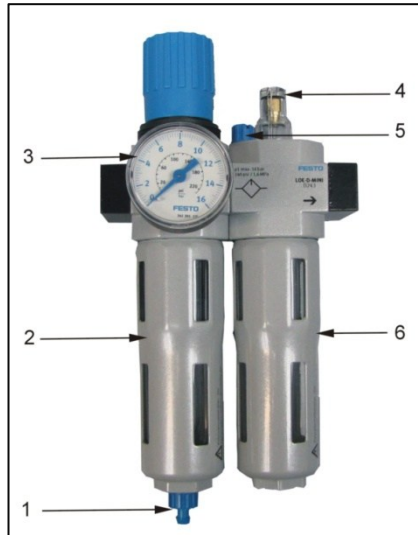

Fig. 8-1 Optimum oil level
All hydraulic pumps are equipped with an oil level indicator. The oil level must be between the lower and upper marking of the oil level indicator (Fig. 8-1).
2. Top up as much hydraulic oil as about 2/3 is filled of the oil level indicator (Fig. 8-1).